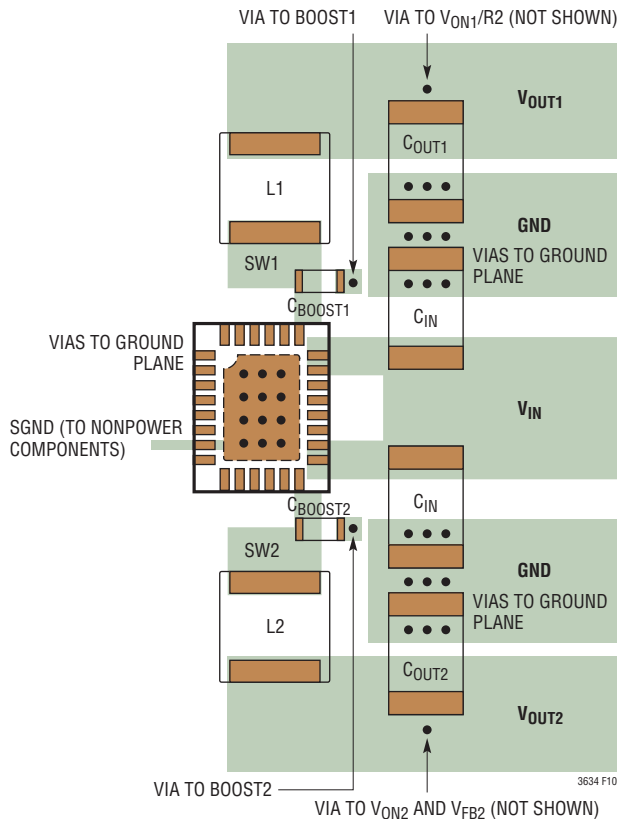

Figure 10. Example of Power Component Layout for QFN Package
6. Flood all unused areas on all layers with copper in order to reduce the temperature rise of power components. These copper areas should be connected to the exposed backside of the package (PGND). Refer to Figures 10 and 11 for board layout examples.